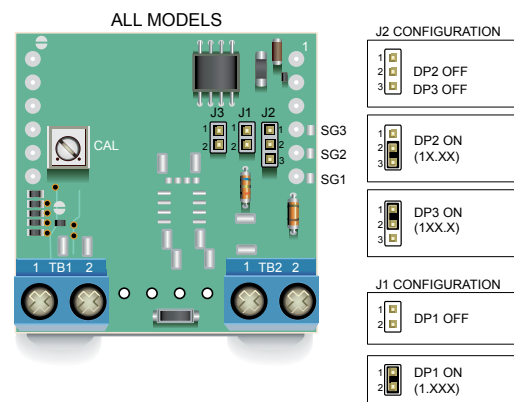

Figure 7. Decimal Point Selection Using J2 and J1 (Applies to All Models)
- 7. Decimal Point Selection:** As shown in the Ordering Information guide, DCA5-20PC ammeters are multiple input-range devices. For example, with a 50mV input, DCA5-20PC-1-DC1 models can be configured to display "5.00", "50.0", or "500" Amps by simply removing or relocating decimal-point-selector jumper J2 (see Figure 7). Decimal points serve as placeholders only; they have no effect on displayed accuracy or resolution. If jumper J2 is not available, solder gaps SG1, SG2, or SG3 can be used to select DP1 ("1.XXX"), DP2 ("1X.XX"), or DP3 ("1XX.X"), respectively.